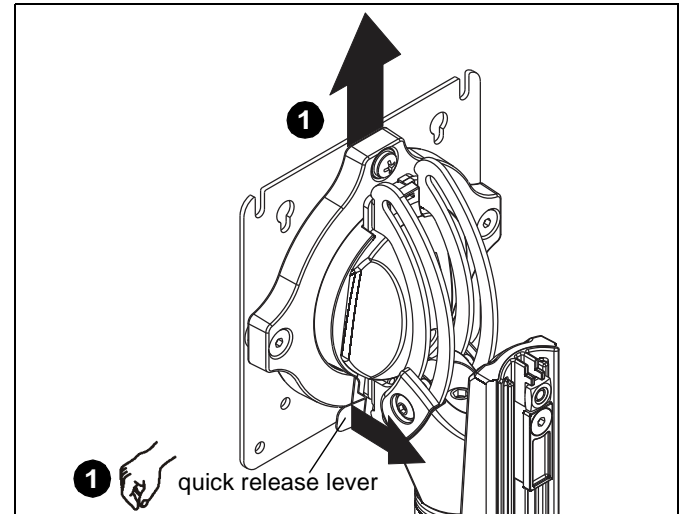

Figure 2
1. Remove quick release faceplate from mount by pulling quick release lever and sliding faceplate off mount. (See Figure 2)